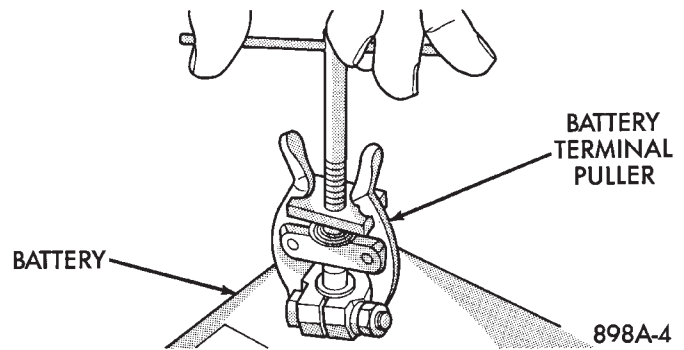

Fig. 2 Remove Battery Cables
- (1) Make sure ignition switch is in OFF position and all accessories are OFF.
- (2) Disconnect and remove the battery terminals from the battery posts. Remove battery negative cable first (Fig. 2).